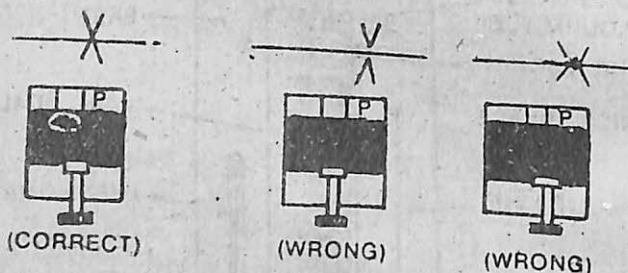

Fig. 24.2.
- (iii) Adjust the screw 'S' by raising or lowering it till the surface of the mercury in the reservoir is just touching the tip of the ivory pointer P as shown in fig. 24.2.